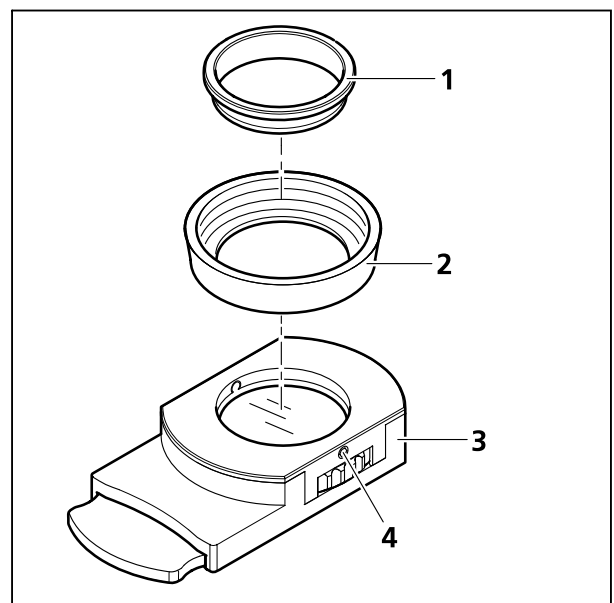

Fig. 10 Inserting the cover cap into the slider
- Turn the slider (Fig. 10/3) upside down. Loosen the clamping screw (Fig. 10/4) of the supporting ring and remove the supporting ring (Fig. 10/1) upward.
- Put the cover cap (Fig. 10/2), with its upper side facing downward, into the slider (Fig. 10/3).
- Insert the supporting ring (Fig. 10/1) into the slider and fix it with the clamping screw (Fig. 10/4).